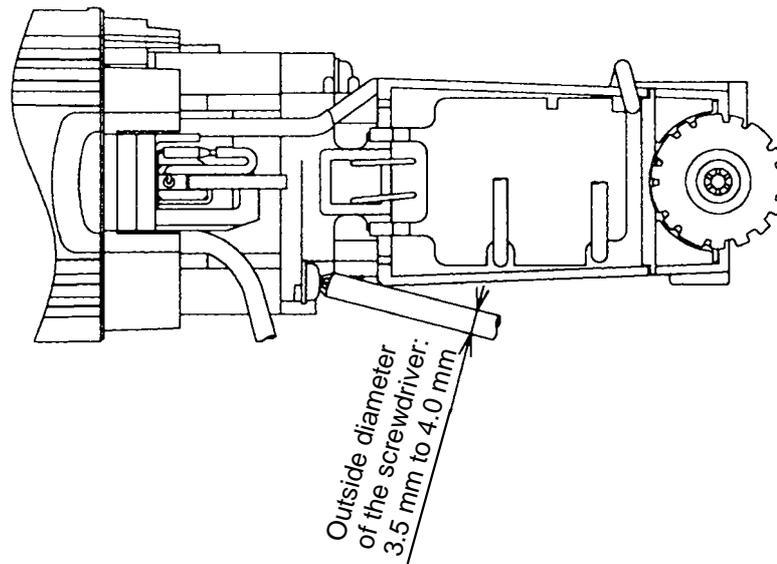

Fig. 8
- (4) Tighten the Tapping Screw (W/Flange) D4 x 16 [60] <60> with a small-diameter screwdriver (3.5 mm to 4.0 mm in diameter) as shown in Fig. 8.